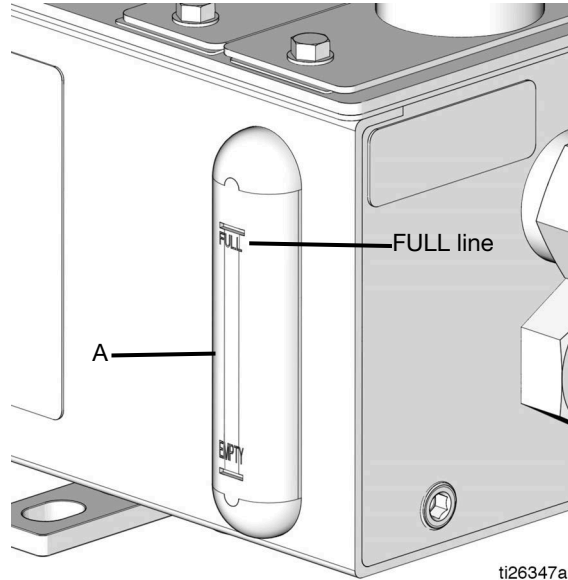

FIG. 2:
Fill the gear box to the FULL line on the Sight Glass (A) with SAE 30 to SAE 40 weight gear lube. Run normally, and change the gear lube after the two week break in period (FIG. 2).